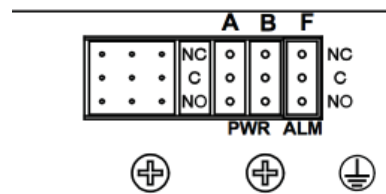

Figure 9-Ground Lug Connection
**ALERT!** Only use components and crimping tools approved by agencies or certifying bodies recognized in your country or region such as Underwriter's Laboratories (UL), TUV, etc.
8. Connect the lug to the rear panel using the #10 screw(s) provided, as shown in Figure 9.